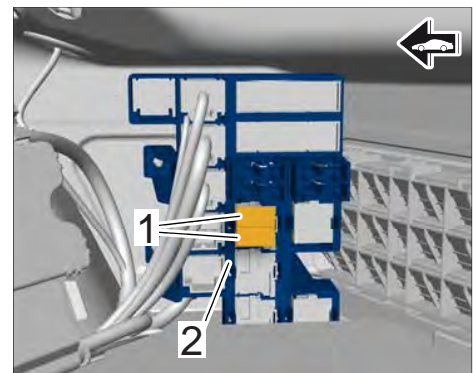

Figure 2
- Remove both engine-compartment blower relays ⇒ *Figure 2 -1-* from the relay carrier ⇒ *Figure 2 -2-*.